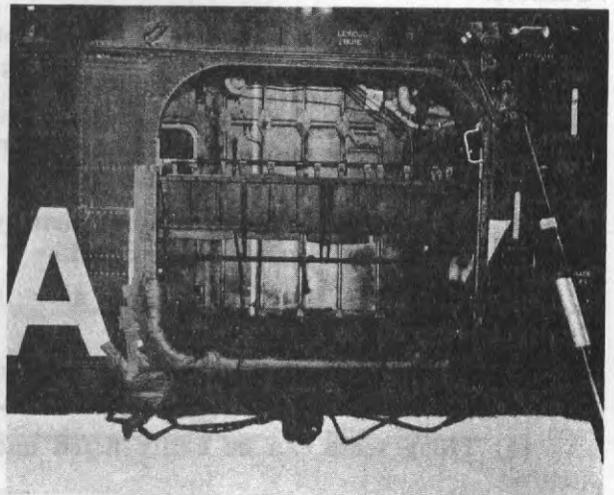

Figure 96. CH-34 troop door prepared for jumping.
(1) Remove three-place combination troop seat installation.
(2) Remove troop seats located aft of the cargo compartment door on the starboard side of the aircraft.
(3) Remove the R-11A range receiver antenna.
(4) Remove the lower litter bracket at the aft side of the cargo door aperture.
(5) Pad and tape the aft edge of the cargo door and the protruding hinge fittings where the combination troop seat was removed (fig. 96).
(6) Install the anchor line cable on the floor on the starboard side of the aircraft (fig.